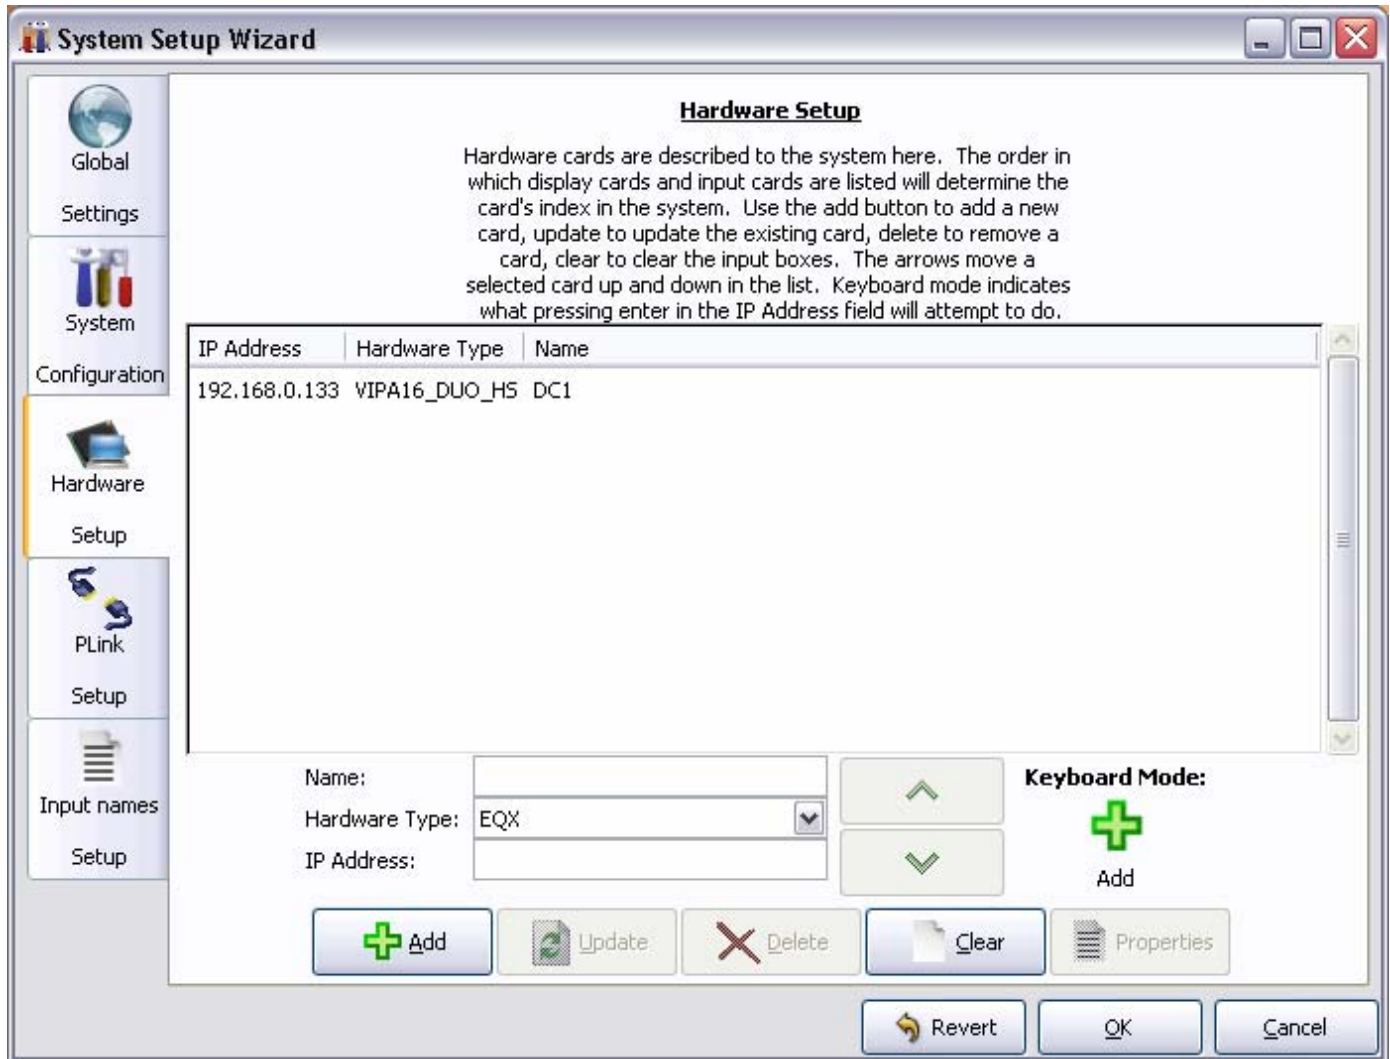

Figure 10-4: Adding the DCP to the Hardware List
3. Add a DCP to the Hardware list by filling out the name, type, and IP address fields. See Figure 10-4 below.